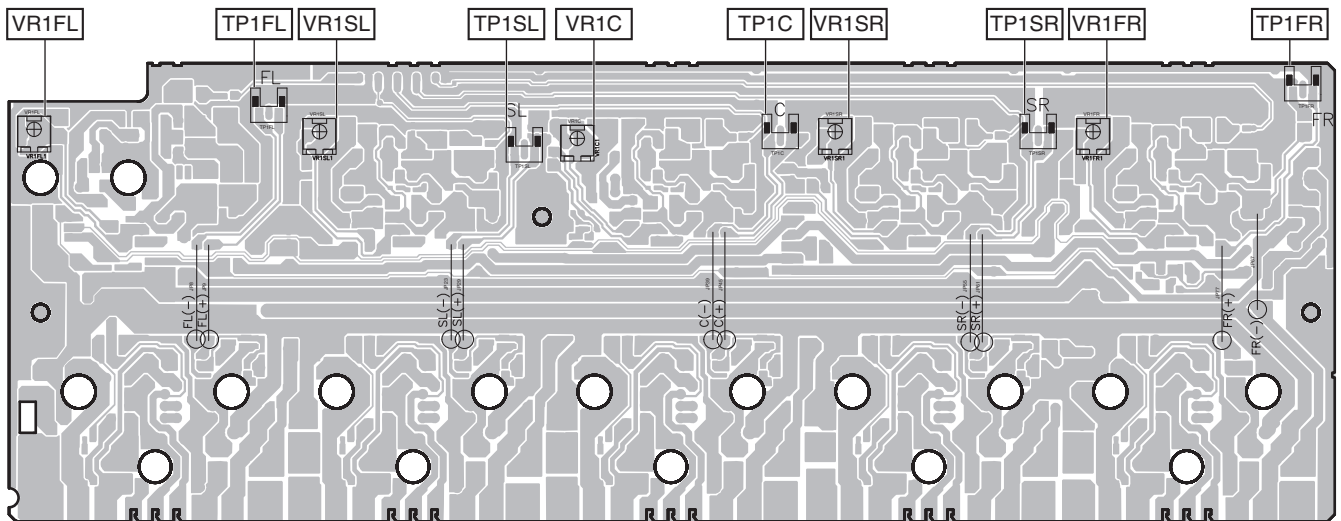

Fig. 1
• Adjustment points and measurement points.... see fig. 1.